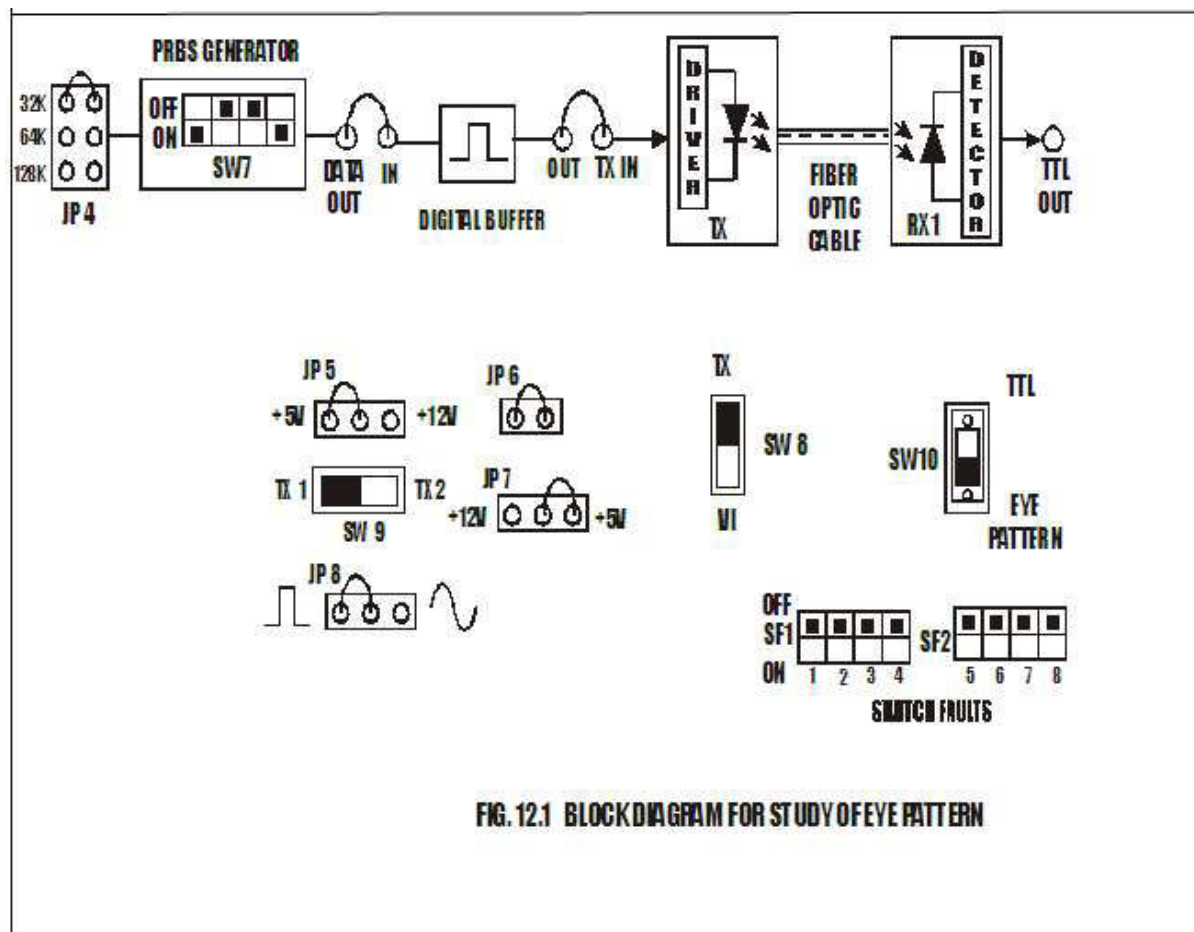

FIG. 12.1 BLOCK DIAGRAM FOR STUDY OF EYE PATTERN
An eye-pattern can be observed with the basic equipment shown in Fig. 12.1. The output from a pseudorandom data pattern generator is applied to the vertical input of an oscilloscope and the data rate is used to trigger the horizontal sweep. This results in the type of pattern shown in Fig. 12.2, which is called the **eye pattern** because the display shape resembles a human eye. To see how the display pattern is formed, consider the eight possible 4-bit-long NRZ combinations. When these sixteen combinations are superimposed simultaneously, an eye pattern as shown in Fig. 12.2 is formed.
- Make connections as shown in fig.12.1. Connect the power supply cables with proper polarity to FO-A-P Kit. While connecting this, ensure that the power supply is OFF.
- Keep switch **SW7** as shown in fig.12.1. to generate PRBS signal.